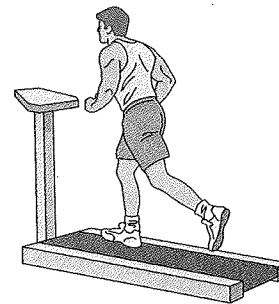

Fig. P2.17
- 2.17 Jack, who weighs 150 lbf, runs 5 miles in 43 minutes on a treadmill set at a one-degree incline (Fig. P2.17). The treadmill display shows he has *burned* 620 kcal. For Jack to break even calorie-wise, how much vanilla ice cream, in cups, may he have after his workout?